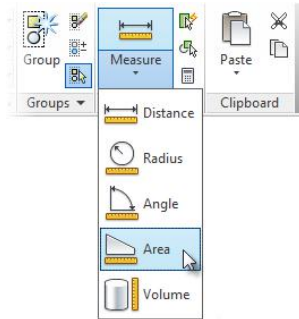

FIGURE 9.22: Starting the Measure > Area command
- From the Home tab > Utilities panel, click the down arrow under the Measure button, and then select the Area option, as shown in Figure 9.22.